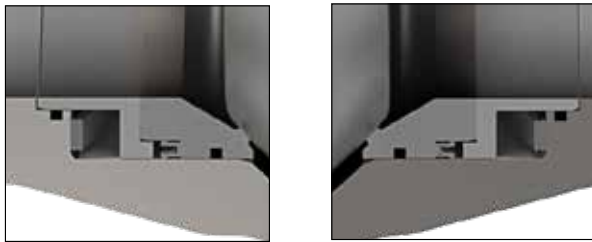

Figure 1a
4. Insert Wave Springs (#29) into seat pockets of Body (#1), See Fig. 1a
5. Insert S-Ring (#26) into Body (#1) over Wave spring (#29). Keep orientation of S-ring as shown in Fig. 1a
6. Slightly Grease the seat wall area with the Anti-Seize Nickel paste. Insert Lip-seal (#27) into the Body (#1) over S-ring (#26). Keep open face of Lip-seal (#27) towards S-ring (#26) as shown in Fig.1a
15. Insert Wave Springs (#29) into seat pockets of Tail (#2), See Fig. 1a
16. Insert S-Ring (#26) into Tail (#2) over Wave spring (#29). Keep orientation of S-ring as shown in Fig. 1a
17. Slightly Grease the seat wall area with the Anti-Seize Nickel paste. Insert Lip-seal (#27) into the Tail (#2) over S-ring (#26). Keep open face of Lip-seal (#27) towards S-ring (#26) as shown in Fig.1a